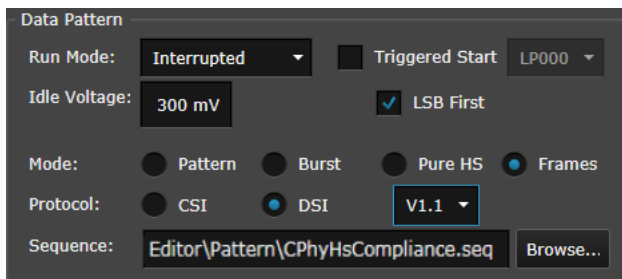

Figure 29 Loading a sequence file in the Frame mode of the user
- in the “**Sequence**” field that appears, click “**Browse...**” to navigate to the sequence file on your computer. See Figure 29.